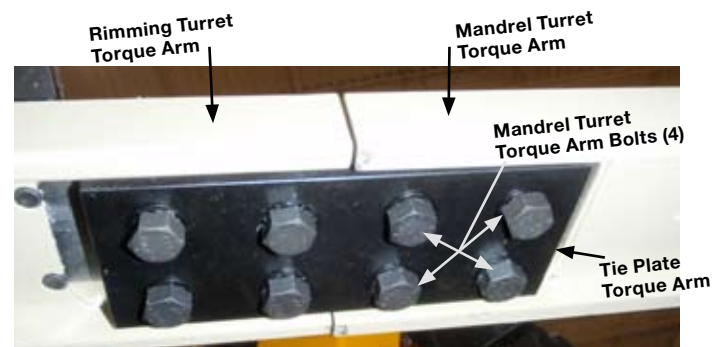

Figure 3
NOTE: Undo (4) four Bolts on the Torque Arm Tie Plate for the Mandrel Turret as shown in Figure 3.